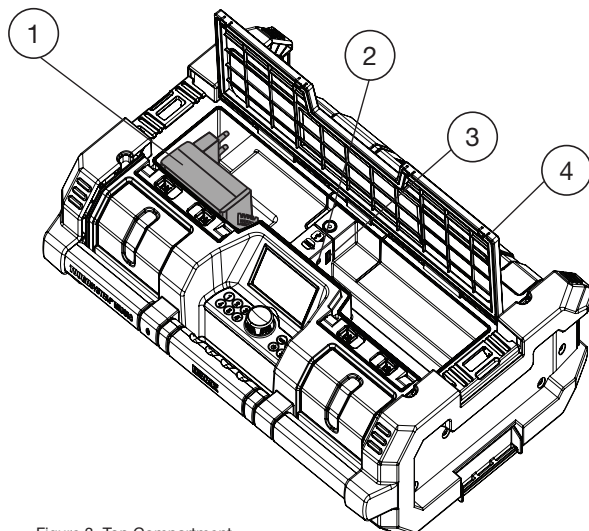

Figure 3. Top Compartment
1. Open the top compartment to take out the AC/DC power adaptor (see Figure 1 and Figure 3).